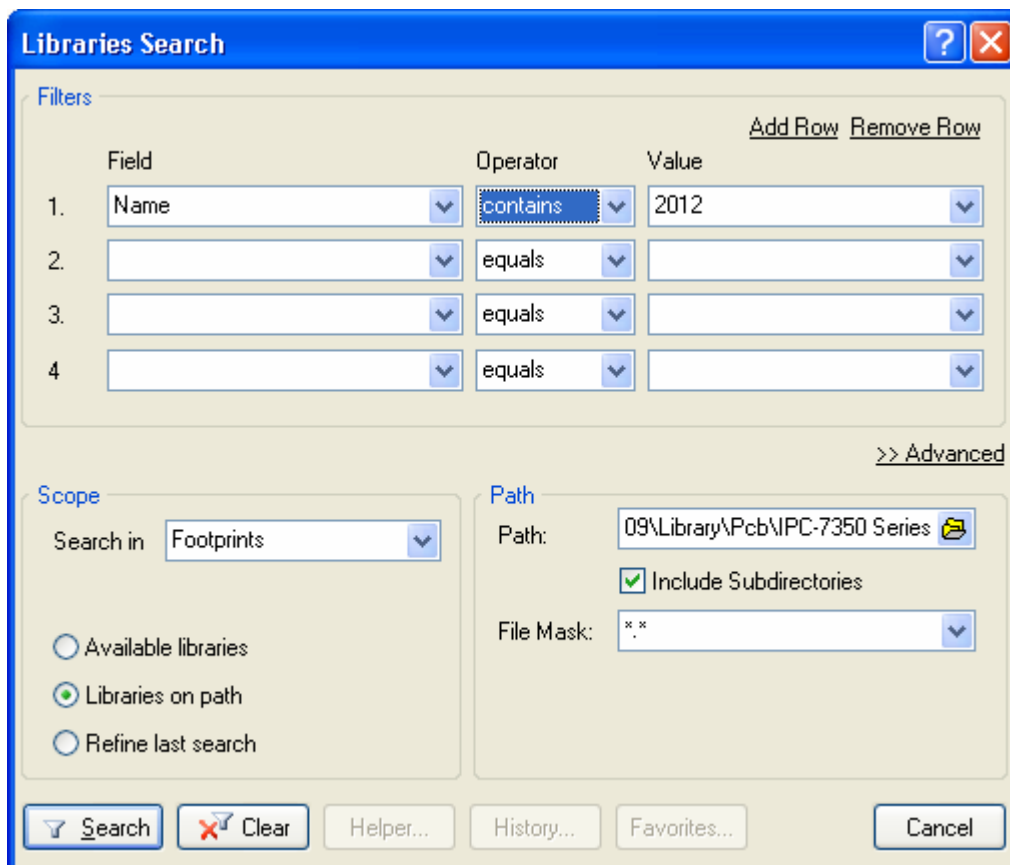

Figure 13. The Libraries Search dialog.
6. In the *Libraries Search* dialog set the Scope to **Libraries on Path**, the path to `C:\Program Files\Altium Designer Summer 09\Library\Pcb\IPC-7350 Series`, and enter the search string 2012, as shown in Figure 13.